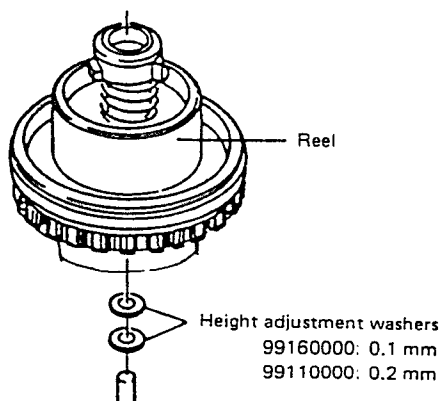

Fig. 18 Washers for height adjustment
4. If it is necessary to adjust the height, add or subtract the required number of height adjustment washers as shown in Fig. 18.